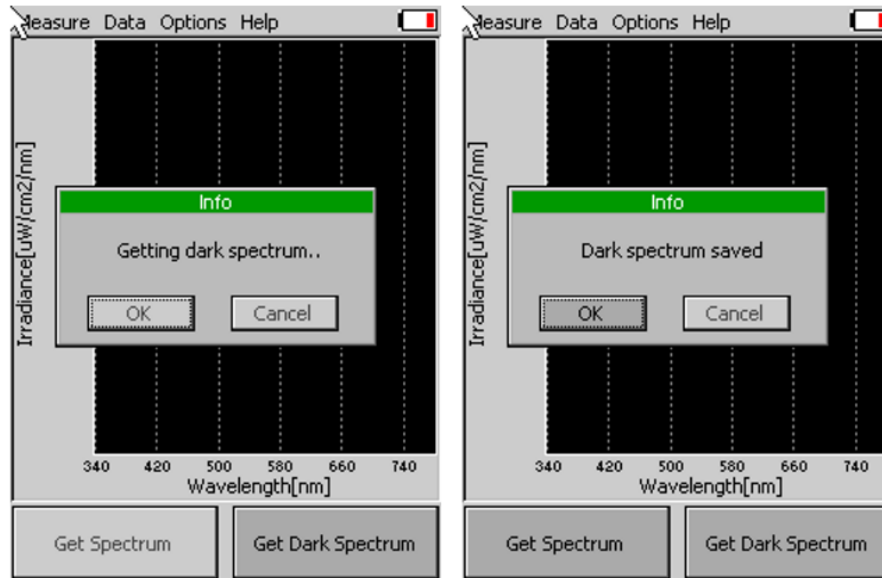

Fig. 4 Dark spectrum calibration - part 2.
- Press **OK** and wait until the Dark spectrum calibration step is completed (Fig. 4). Please note that the sensor head must be covered throughout the entire process of calibration.